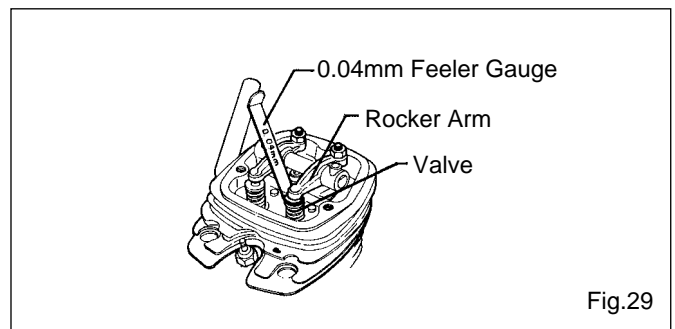

Fig.29
4. The standard valve clearance, on both inlet and exhaust valves, is between 0.04mm and 0.1mm(0.0015-0.004 inch), measured between valve stem and rocker arm. Use the 0.04mm and 0.1mm feeler gauges to check clearances. (See Fig.29.)